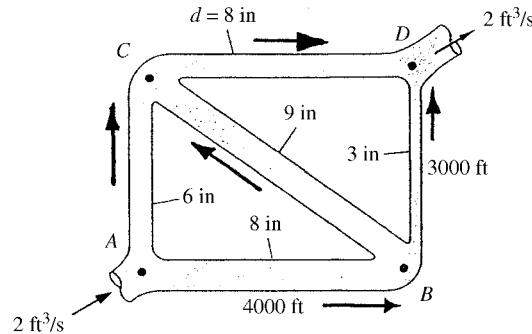

Fig. P6.127
**6.127** In the five-pipe horizontal network of Fig. P6.127, assume that all pipes have a friction factor  $f = 0.025$ . For the given inlet and exit flow rate of  $2 \text{ ft}^3/\text{s}$  of water at  $20^\circ\text{C}$ , determine the flow rate and direction in all pipes. If  $p_A = 120 \text{ lbf/in}^2$  gage, determine the pressures at points  $B$ ,  $C$ , and  $D$ .
There are two triangular closed loops, and the total head loss must be zero for each. Using the flow directions assumed on the figure P6.127 above, we have